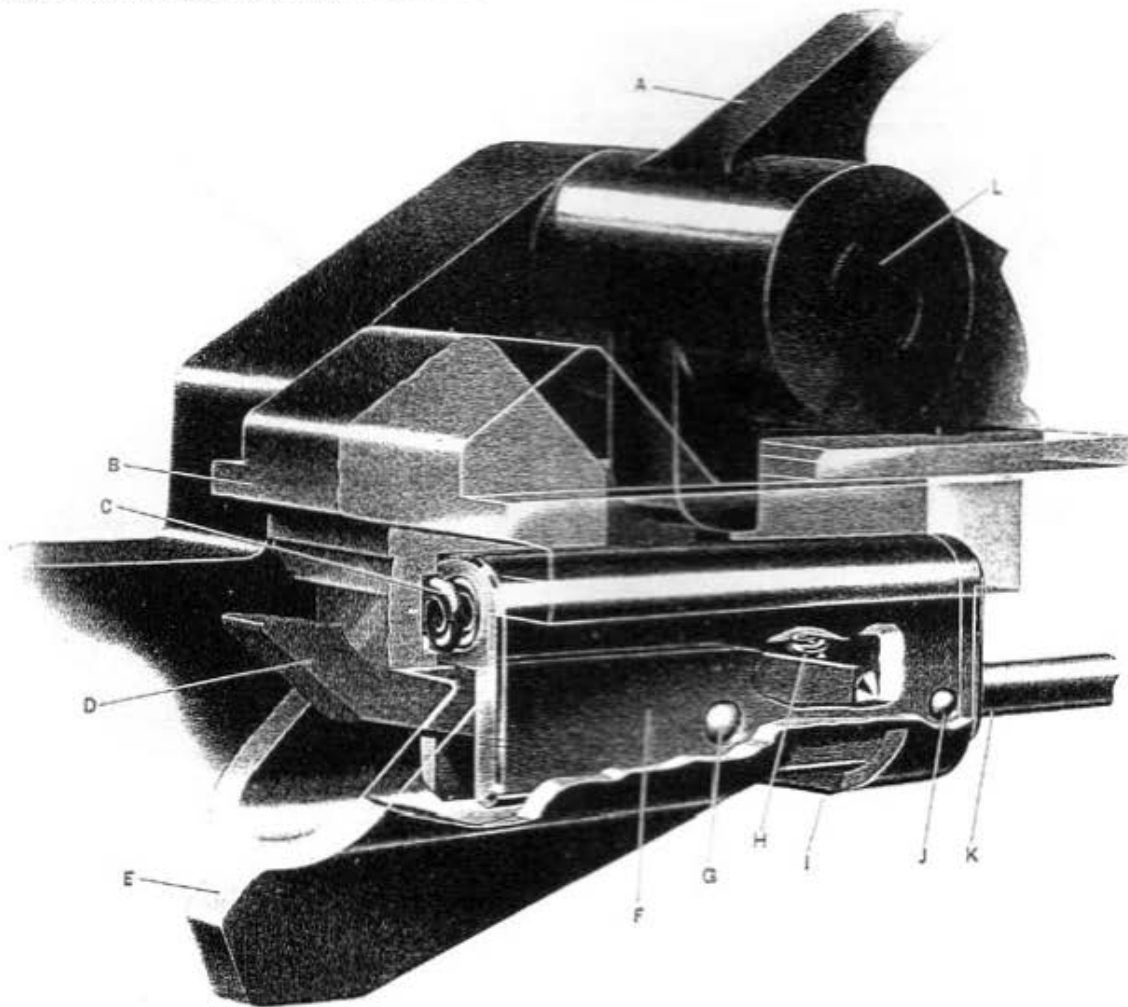
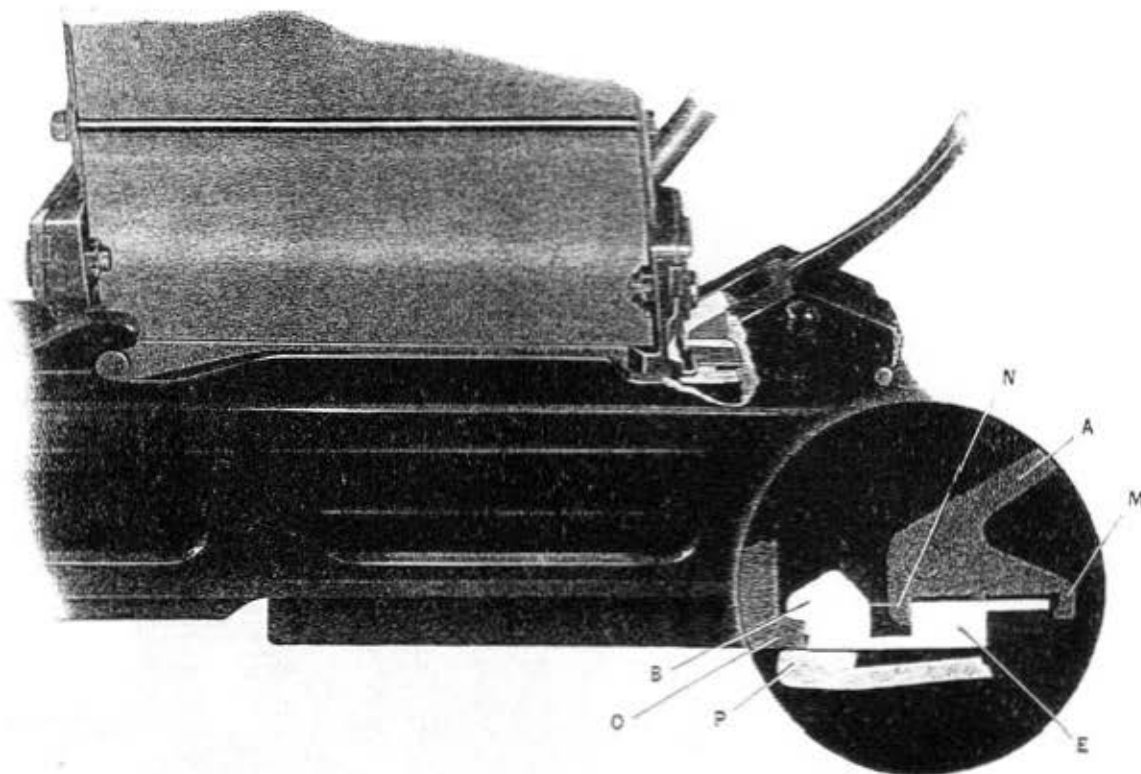
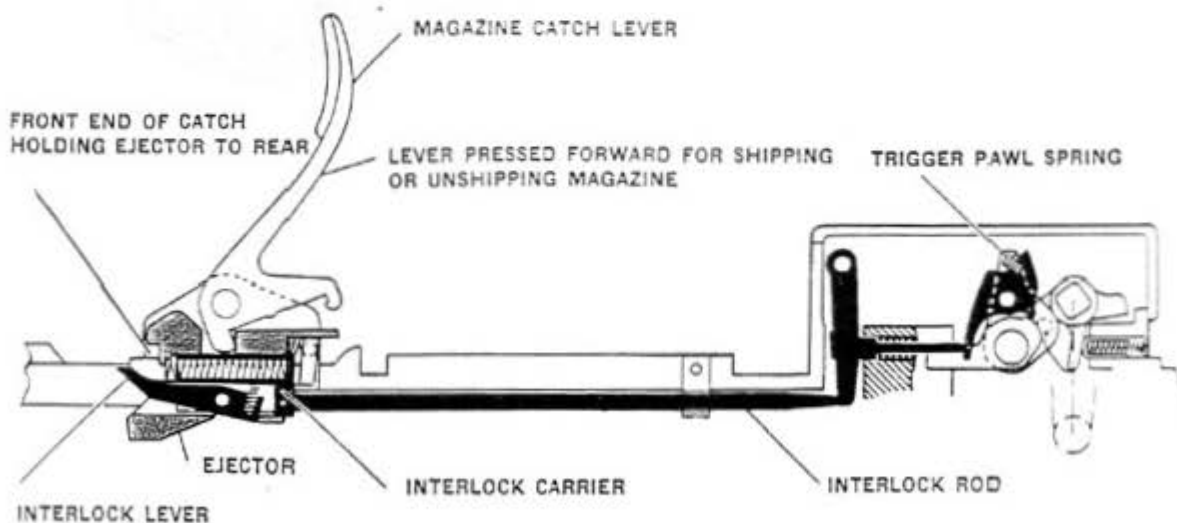

Figure 14—Magazine Interlock Gear in firing position
Figure 15—Magazine in shipped or firing position, showing catch down and ejector locking magazine in place
Figure 17—Magazine catch gear and ejector in position for shipping or unshipping magazine
Magazine Catch Gear and Ejector. Figure 14. is mounted in the breech casing and consists of three sections:
3. Front portion of the magazine interlock gear, as shown in Figure 14. See Page 48 for details of trigger gear operation caused by interlock rod.
The magazine catch gear is operated by a magazine catch lever (A), Figure 14, rotating on an axis bolt (L) mounted on the breech casing. The front toe (N), Figure 15, on the lever engages with a face on the ejector (E). The rear toe (M) on this lever engages with the upper rear end of the ejector. The ejector (E) is free to move slightly in a longitudinal direction and, therefore, can be moved rearward by rotating the magazine catch lever (A) toward the muzzle.
On the front end at the top of the ejector is a lug (B), Figure 15, that engages a corresponding lug (O) on the magazine and holds the magazine to the gun. See Figure 15. If the ejector is held cocked to the rear by the catch, the lug is clear of the magazine so that the latter can be shipped or unshipped. See Figures 17 and 18. As above mentioned, the ejector can be moved rearward to the cocked position by rotating the magazine catch lever toward the muzzle.